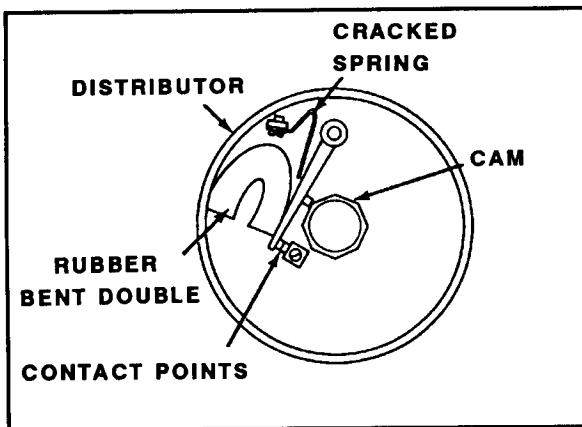

FIGURE 22-16. Broken Distributor Point Spring Repair.
**Broken Distributor Point Spring.** If your engine cuts out, stops, and cannot be restarted, the cause may be a broken distributor point spring. Take off the distributor cap and if this is the cause, cut a piece of rubber from a tire and double it behind the spring (Figure 22-16). The engine will then start and operate at slow speeds. The rubber substitute cannot close the point fast enough for high-speed operation.